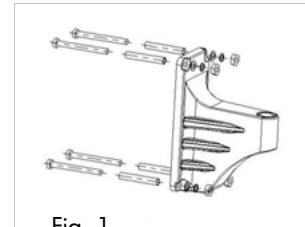

Fig. 1
4. Fix the bracket by four self-taping screws accordingly (fig. 1).